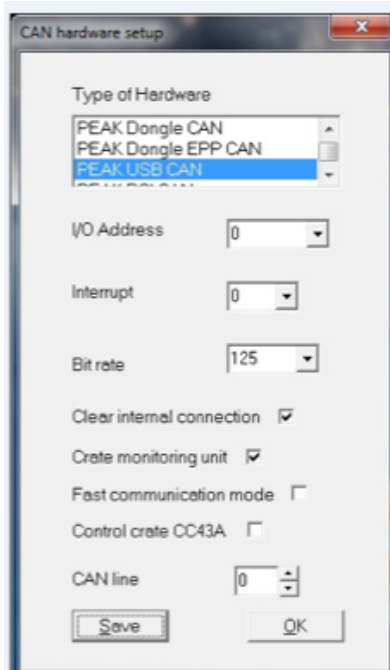

Figure 19. iSEG Hardware Setup and Main screen
3. On **CAN hardware setup** window (Figure 19):
6. Repeat steps 2 to 4. Click the **iSEG High-Voltage Control Icon** (Figure 18) to open the **Main windows** (Figure 19 and 20).
7. Launch the **iSEG control** software at the NGR computer (*Figure 18*), to open the **iSEG Main** windows (*Figures 19 and 20*).
8. On **CAN hardware setup** window (*Figure 19*):